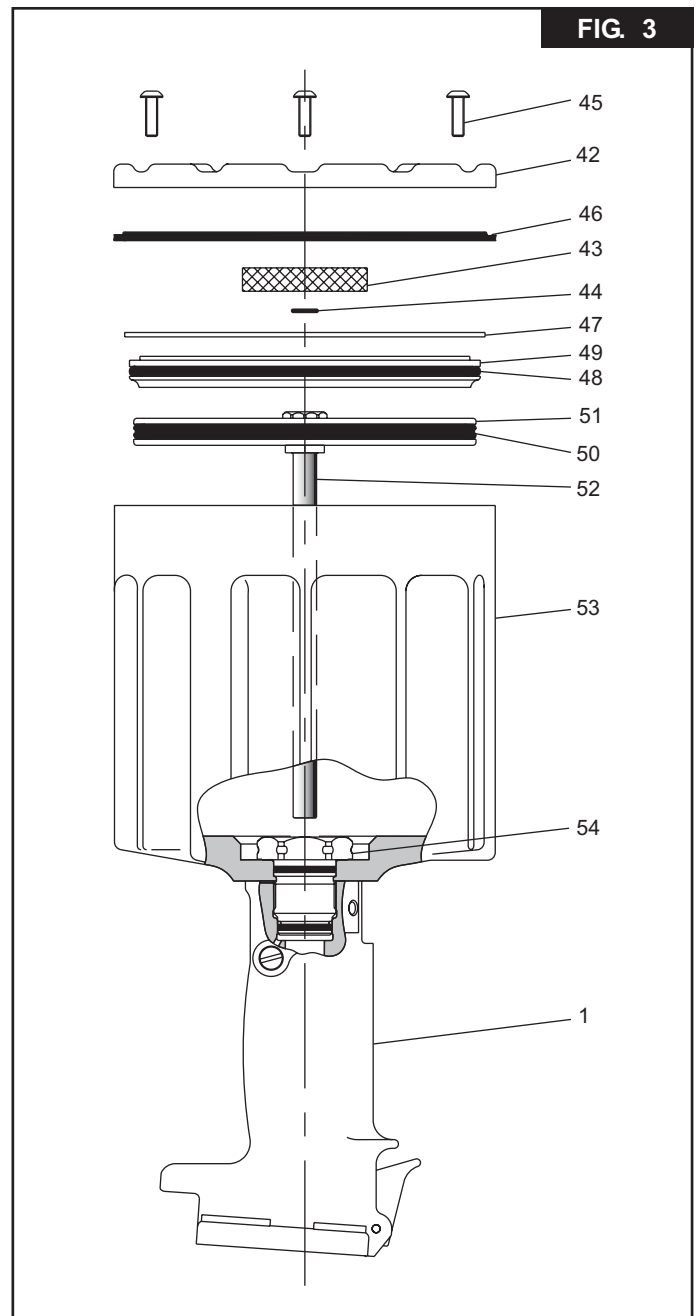

FIG. 3
18. Remove Bleed Screw (64) from handle (Fig. 3).
19. Hold tool inverted in vice. Unscrew three Button Head Screws (45) with 1/8 hex key. (Fig 3).
20. Remove bottom Plate (42), Bottom Exhaust Gasket (46), Muffler (43) and O-ring (44) (Fig 3).
21. Remove Retaining Ring (47) from Cylinder (53) (Fig 3).
22. Screw button head screws (45) into Cylinder Head (49). Carefully pry under screws to remove cylinder head.
25. Grip lock nut (41) under Air Piston with pliers and pull piston and rod assembly from handle and cylinder assembly (Fig 3).
5. Hold handle in vise with bottom facing up. Push Cylinder Head (49) with O-ring (48) in place squarely into cylinder. Install Retaining Ring (47). (Fig. 3 & 9)
6. Position O-ring (44) and Muffler (43) on center of Cylinder Head (49), place Gasket (46) on cylinder assembly (53) **NOTE: Lip must face Bottom Plate (42).** Place Bottom Plate (42) on top of Gasket and secure with 3 Button Head Screws (45) using 1/8 hex key. (Fig. 3)